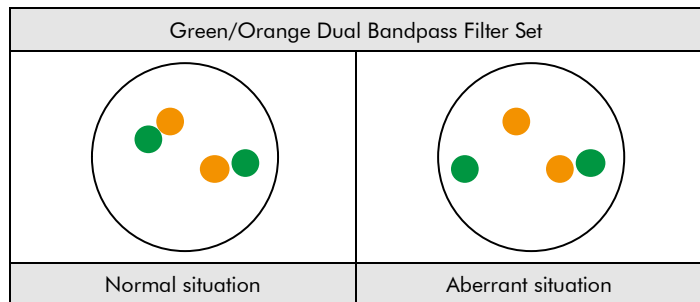

Fig. 2: Expected results in normal and aberrant nuclei
**Normal situation:** In interphases of normal female interphase cells or cells without a translocation involving the TFE3 gene region two orange/green fusion signals appear (see Fig. 2).
In interphases of normal male cells or cells without a translocation involving the TFE3 gene region one orange/green fusion signal appears (see Fig. 2).
**Aberrant situation:** One TFE3 gene region affected by a translocation is indicated by one separate green and one separate orange signal (see Fig. 2).